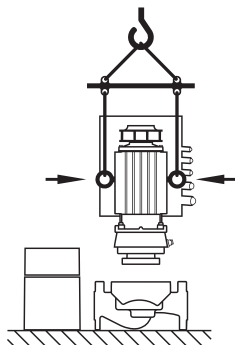

Fig. 9: Transport of the motor impeller unit
- If necessary, e.g. in case of repairs, the transport eyes can be moved from the motor flange to the motor housing (see e.g. Fig. 9). Before installing the transport eyes at the motor housing, unscrew the spacers from the openings for the transport eyes (Fig. 7, Item 20b) (see chapter 10.2.1 "Replacing the mechanical seal" on page 50).
- If the transport eyes have been moved from the motor flange and installed at the motor housing, then they are only approved for carrying or transporting the motor impeller unit (Fig. 9) and not for transport of the whole pump and not for separation of the motor impeller unit from the pump housing.